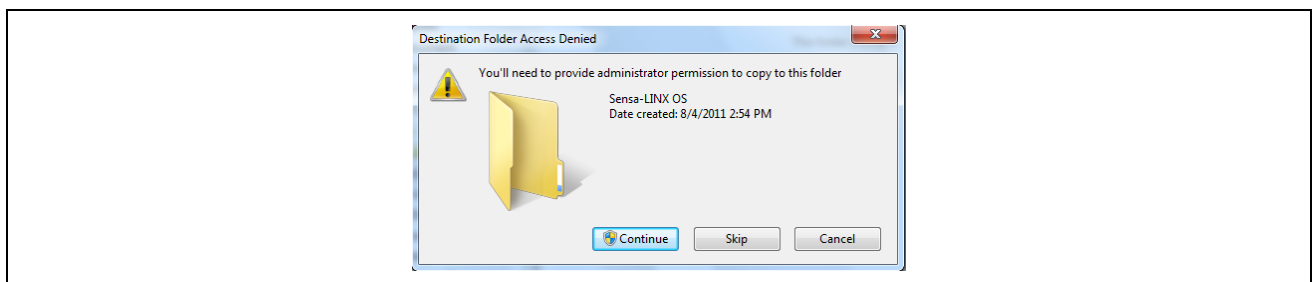

Figure 3 Destination Folder Access Denied Dialog
2. Administrator privileges are required to copy a file into the folder. If you are logged in as a user, you will see the dialog shown in Figure 3 and will be required to enter in the Administrator password to copy the file into this directory.